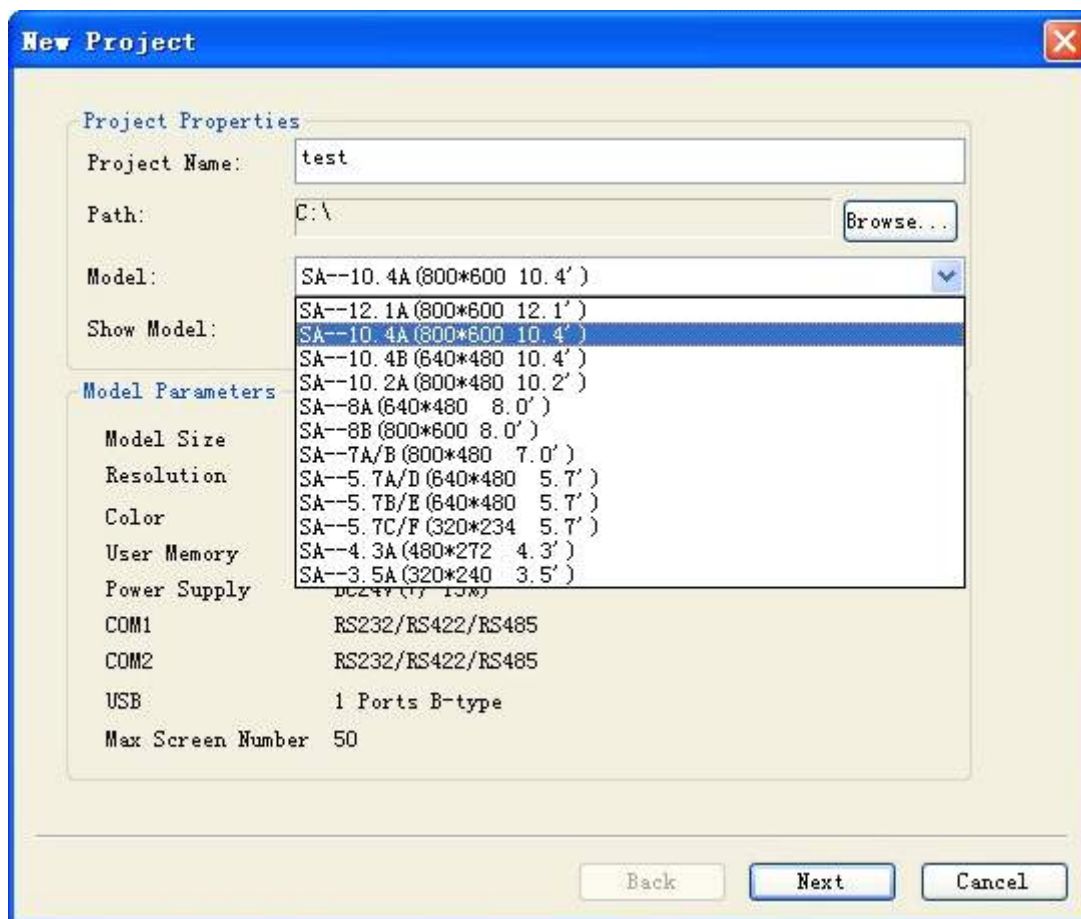

Figure 6-3 Dialing box of new project
- ✓ Select the icon  for new item or "File" – "New Project" in menu bar to pop up the dialog box as shown in figure 6-3.